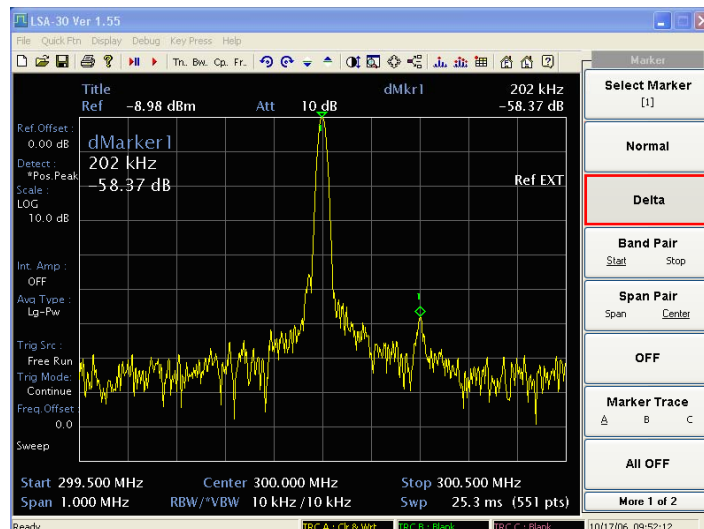

Fig. B-6 Signal resolution with a 10 kHz resolution bandwidth
- 4 Set the 300 MHz signal to the reference level by pressing [Peak], then [MKR→], [Marker→Ref]. If a 10 kHz filter with a typical shape factor 15:1 is used, the filter will have a bandwidth of 150 kHz at the 60 dB point, the half-bandwidth (75 kHz) is narrower than the frequency separation, so the input signals will be resolved: see Fig. B-6.